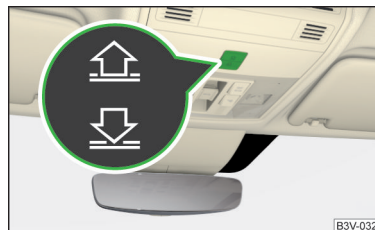

Fig. 63
Operation of the sunblind » Fig. 63
- › Switch on the ignition, press and hold the ☷ » Fig. 63 on page 69 button.